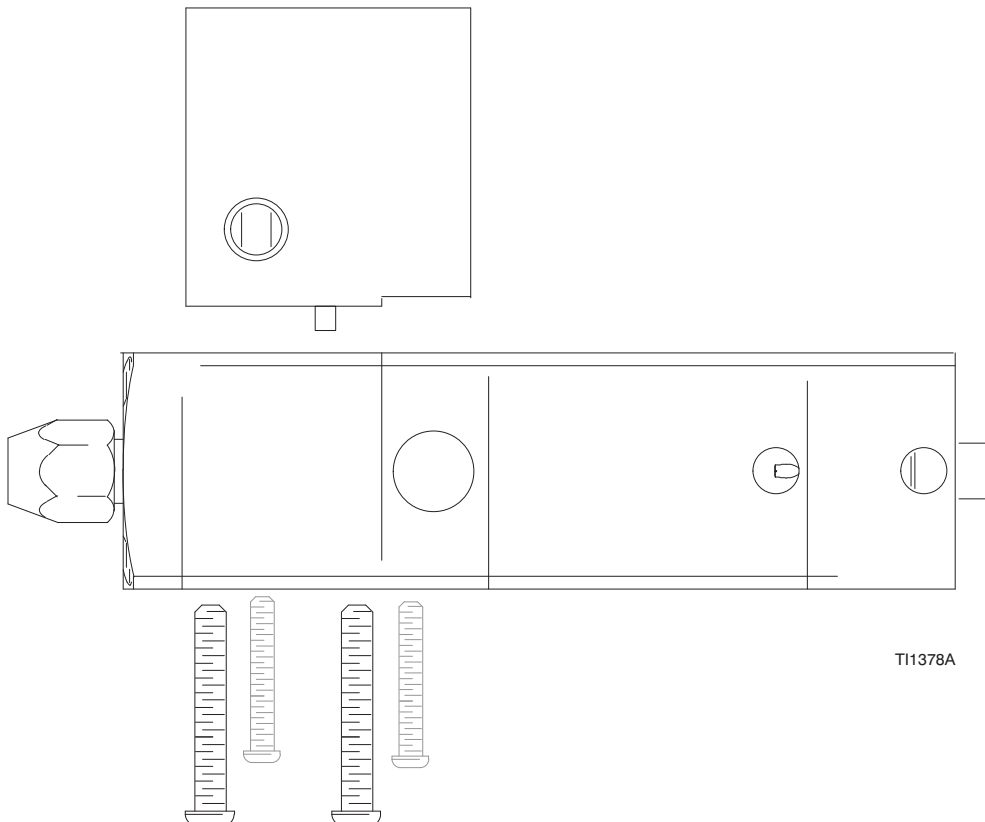

Fig. 8
3. Remove 4 M-6 socket head screws that connect the valve body to the inlet manifold. (see Fig. 8.)